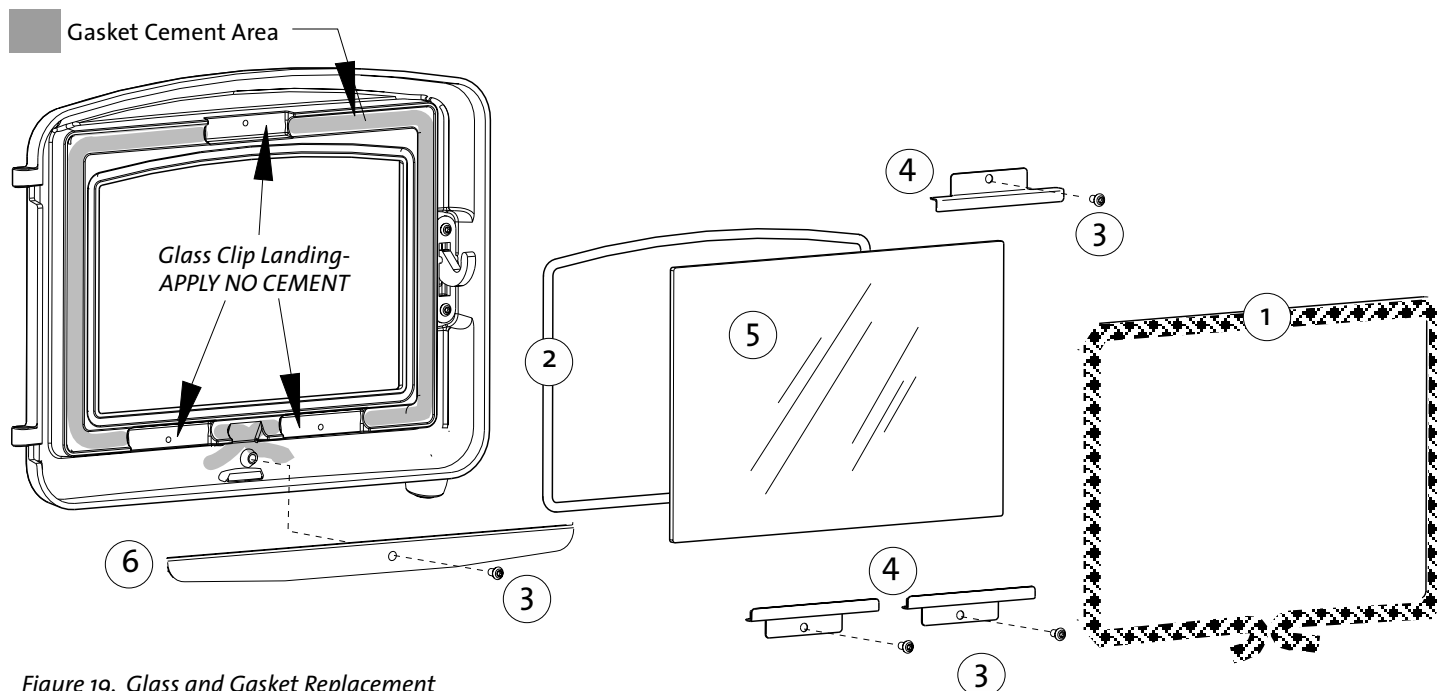

Figure 19. Glass and Gasket Replacement
5. Apply a small bead of gasket cement to the channel as shown in fig. 19. **DO NOT APPLY CEMENT TO THE GLASS CLIPS OR THE CLIP LANDING AREAS.**
6. Starting at the center of the gasket length and the top center of the channel, gently press each gasket half into the channel. Do not stretch the gasket. Wrap the ends at the center of the bottom as shown in fig. 19.